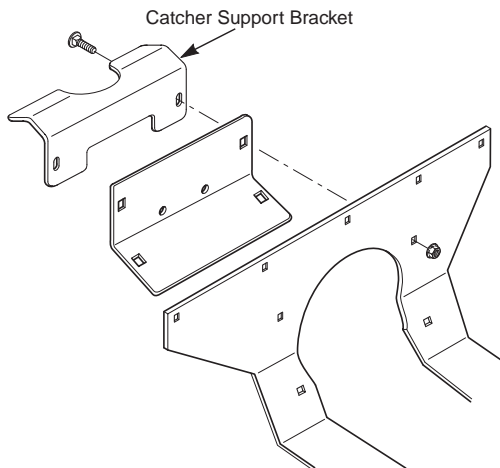

FIGURE 3-6
15. Install the catcher support bracket onto the rear of the machine and secure with 5/16-18 x 1" carriage bolts (p/n 04003-04) and 5/16-18 serrated flange nuts (p/n 04019-03). See Figure 3-6.